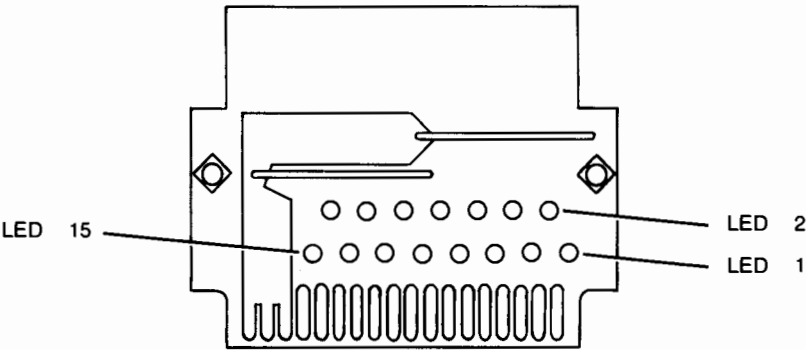

Figure 6-11. Head Load Assembly
4. With component side up, plug the long connector side of the Head Load Assembly (figure 6-11) into TPM PCA connector (slot in TPM mainframe). Ensure that the Head Load Assembly is seated fully into TPM mainframe.